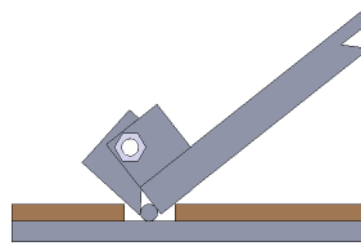

Fig. 15
4. To lower lift: Press the button UP, until the safety lock is in the released position (**See Fig. 15**), lower lift by pushing lowering handle.